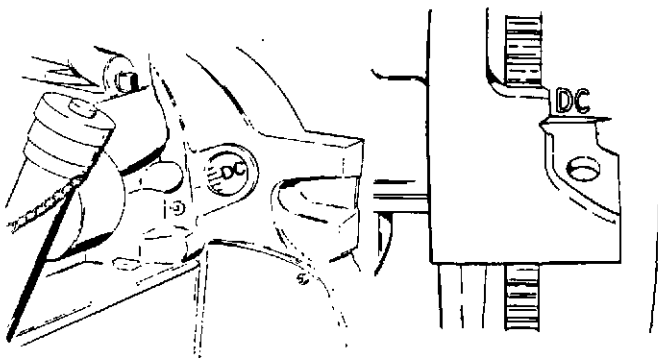
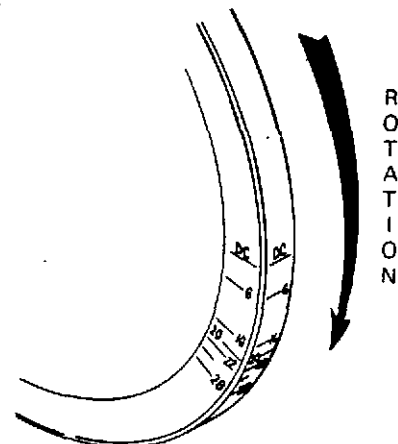

Figure 3-4. Alternate Timing Locations
Figure 3-5. Standardized Timing Marks
NOTES: 1. See figure 3-5 for an illustration of standardized flywheel timing marks.
make the timing mark more visible under the timing light. Start the engine and run it at the specified speed. Shine the timing light on the timing hole in the bellhousing, or on the edge of the bellhousing, as shown in figure 3-4. Read the timing by noting the mark on the flywheel which aligns with the mark on the bellhousing. Standardized timing marks for late model engines are shown in figure 3-5.
f. Paint or chalk a line on the engine flywheel at the proper timing mark location. This will make the timing mark more visible under the timing light. Start the engine and run it at the specified speed. Shine the timing light on the timing hole in the bellhousing, or on the edge of the bellhousing, as shown in figure 3-4. Read the timing by noting the mark on the flywheel which aligns with the mark on the bellhousing. Standardized timing marks for late model engines are shown in figure 3-5.